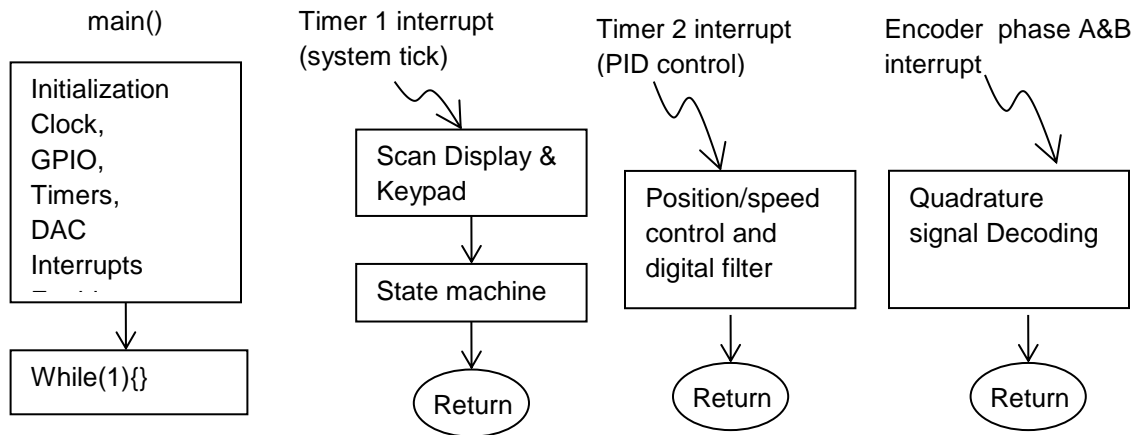

Figure 5-1 Program structure
Your control program should be structured as shown in Figure 5-1. The main() consists of initialization of all related peripherals and a dummy infinite loop. There should be two timer generated interrupts. One for the 7-segment display, keypad interface, and the state machine. This timer interrupt should have lowest priority and should be set to about 60Hz. The other timer interrupt is for implementing the speed and/or position control and a low-pass digital filter. This timer interrupt should have a medium priority level and should be set to 200Hz. Encoder quadrature signal should be decoded by EIC as in Lab 4. This interrupt should have highest priority.
- (2) The motor speed (in RPM) should displayed on the 7-segment display at all time. The 1Hz bandwidth digital filter implemented in Lab 4 should be included so the displayed value is steady.
- (3) The speed must be controlled by a **PI speed control loop**. Note that the raw calculated speed should be used in the PI control loop, NOT the filtered one.
- (4) The program must be based on Interrupt and state-machine using the program structure shown in Figure 5-1.
- (5) The state machine should have 4 states: Idle, Accel, Decel, and Spd\_ctrl.
At any instant of time, the control program operates in one of the 4 states. The foreground task is executed at all times. The foreground tasks include: Keypad scanning and 7-segment display, keypad input interpretation (setting Goal state, in this case) and the state machine. These foreground tasks are executed in the first timer interrupt handler routine. Note that, there is no explicit communication between any of the blocks in Figure 5-1. All communication is done through the state variable implicitly. For example, The 'speed command' variable (used in the PI control loop) is incremented when the state variable is #2. If the state variable is #4, the speed command is decremented. The speed command should be kept at 1500rpm in state #3.